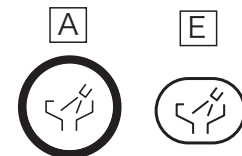

Fig.3-5 Bowl Flush Switch
③ Bowl Flush Switch (Fig.3-5) A E